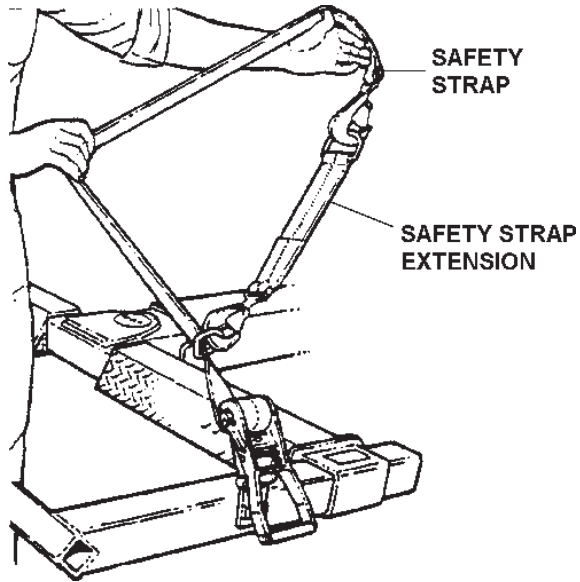

FIGURE 4A.11
- (d) Release Ratchet Lock and tighten Safety Strap around tire securely with ratchet. See Figure 4A.12.